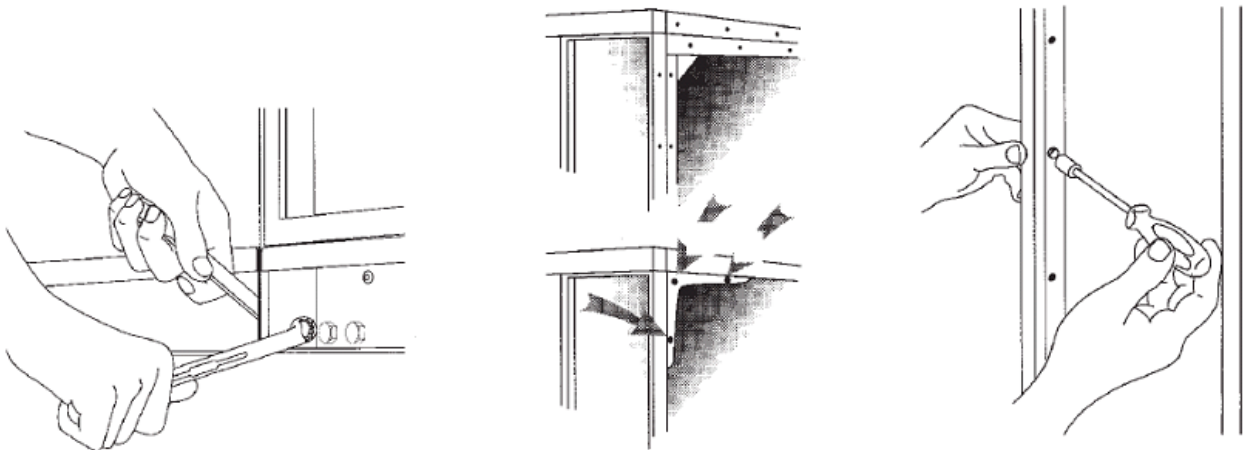

Figure 79: Bolting delivery sections together
- In the base frame profiles (**Figure 79** left).
- If accessible, in the connection angles located in the upper corners of the AHU (**Figure 79** bottom center).
- If accessible, in the circumferential connection frame (**Figure 79** top center).
- In the panels (**Figure 79** right).